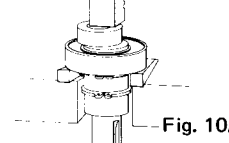

Fig. 10A
7. Remove both **RETAINING RINGS** with a screwdriver. (Tool C in Fig. 3 used on old style retainers rings). If necessary, apply pressure to cam bearing (Fig. 10A) to loosen ring. Reverse assembly in press and force shaft out of bearing. Remove **PLASTIC BEARING SHIELD** (Ref. 23) from shaft.